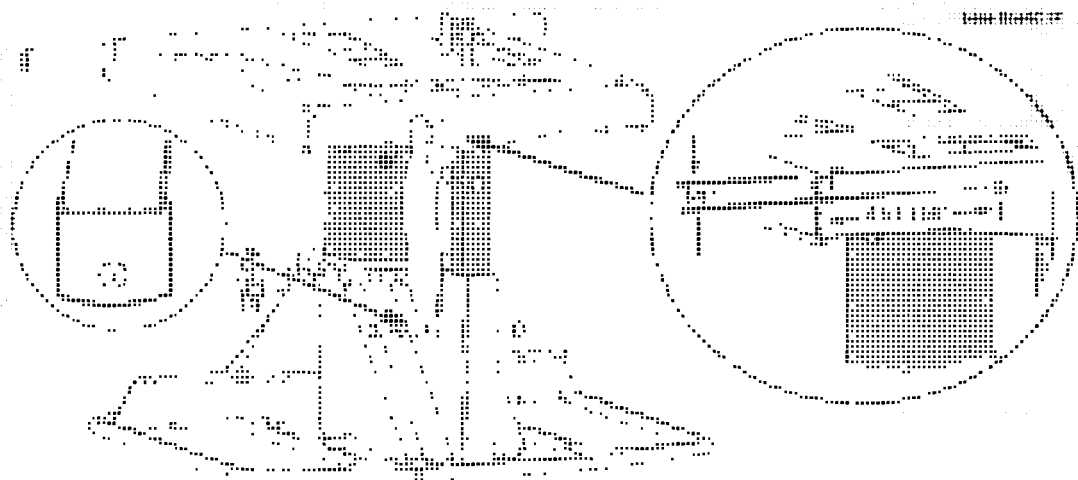

FIGURE 28.
4. Using a center punch, mark the location of the top hole on the front rail of the seat frame, as indicated in FIGURE 28.
NOTE: In the following step insure that the bottom hole is located so that it DOES NOT interfere with the seat base mechanism in any way. The bolt is a smaller diameter than the hole in the tether end plate, so the drilled hole must be offset slightly towards the end of the tether to insure that the tether is stretched tight when installed. See FIGURE 28.
7. Pull the tether tight and use the center punch to mark the location of the bottom hole. See FIGURE 28.